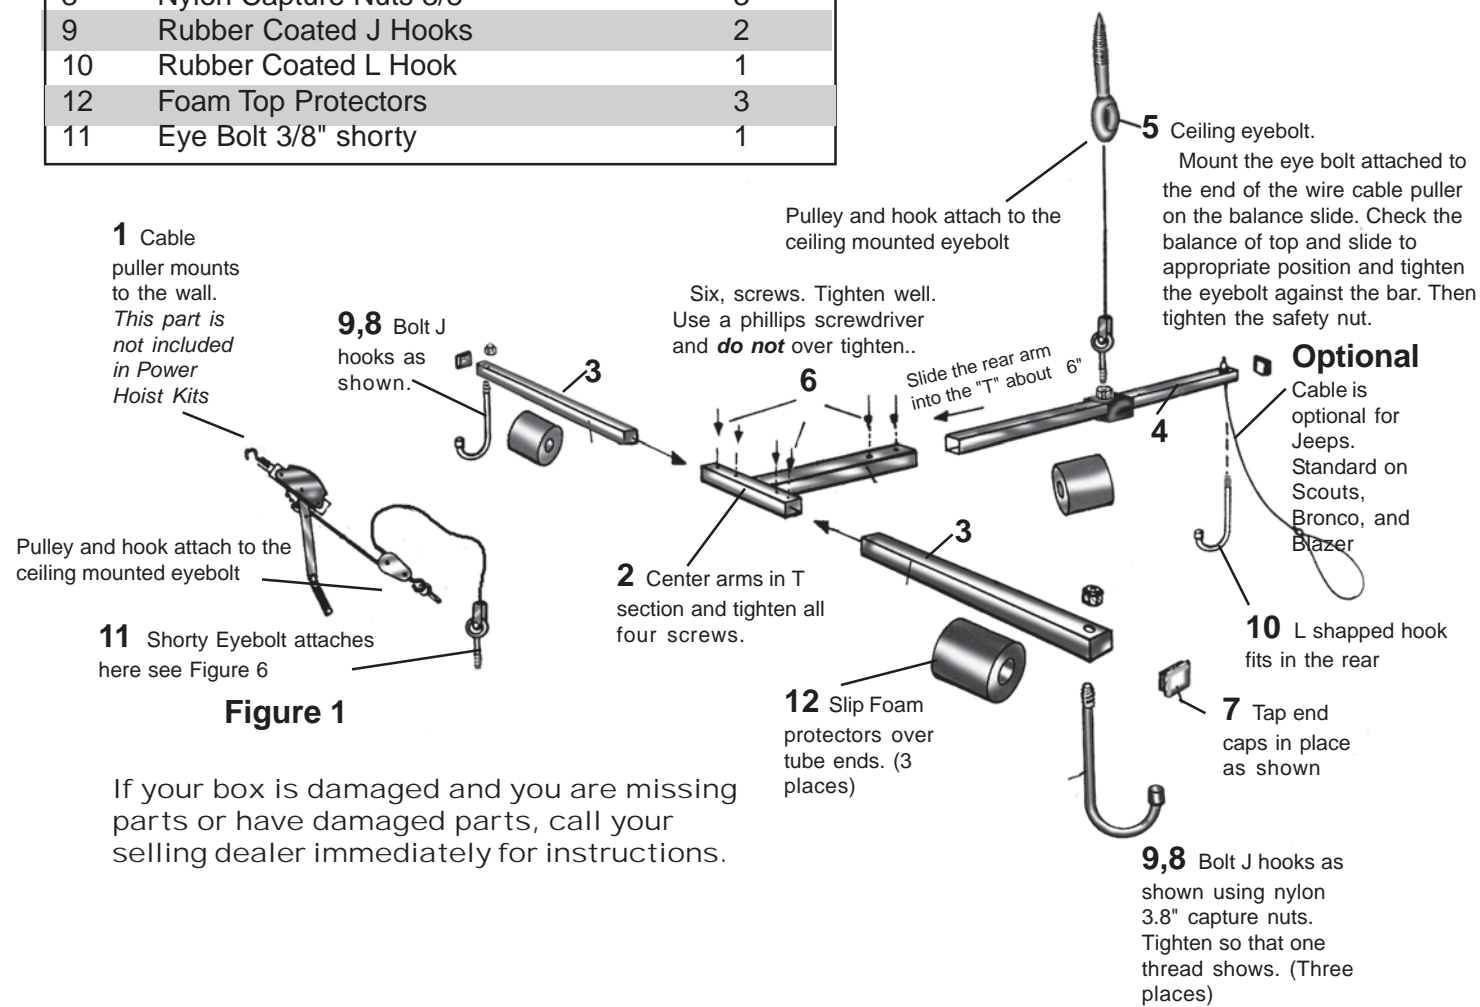
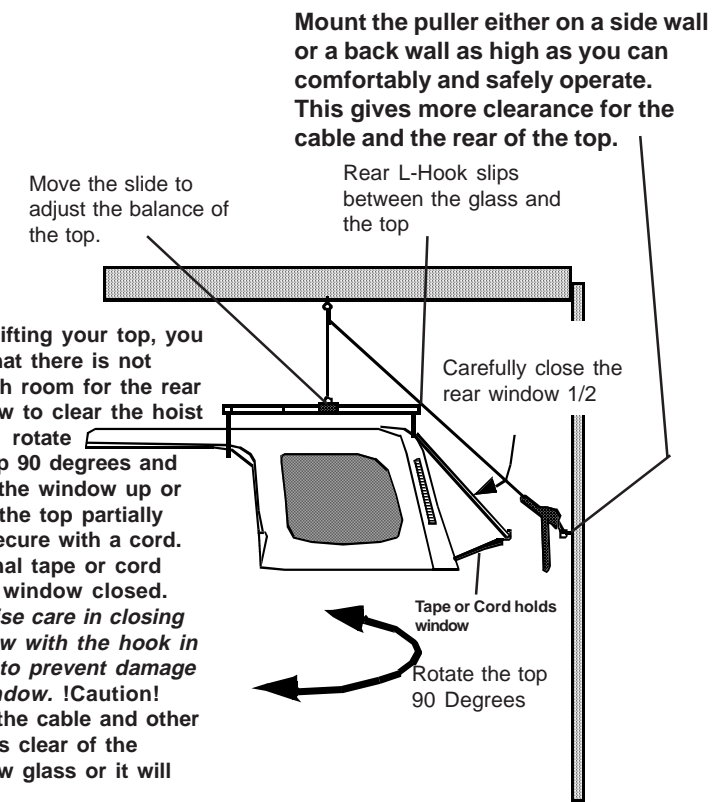

Figure 1
Figure 5, Mounting Connections
Please follow in order and read carefully before starting. Parts from the above diagram (Figure 1) are represented in the text in parenthesis: example Hoist Frame T Section (2).
2 Assemble the hoist frame as shown in Figure 1. Clip the Cable Puller (1) to the wall Eye Bolt (5) and then clip the pulley and hook to the ceiling Eye Bolt (5) as shown in Figure 5. Connect the shorty eyebolt as shown in Figure 6 to the cable puller and then attach to the slide. Place the Slide in the approximate position as shown in Figure 5 and hand-tighten the eyebolt to the arm. Slip the Foam Top Protectors (12) over the three arms of the hoist frame as shown in Figure 1. Hammer the End Caps (7) into the arms of the hoist frame. Attach the 3/8" Nylon Capture Nuts (8) to the hooks as
shown in Figure 1. **Tighten until one thread shows above the nut end.** Slip the frame arms into the hoist Frame T Section (2) as shown in Figure 1. **Insert and hand-tighten the #4 Screws (6) in the Frame Arms with a screw driver (3). Do not overtighten**
Helpful Hint: Fill an empty one-gallon milk carton about 3/4 full of water. Slip the handle of the carton through the rear hook on the empty hoist frame. This will balance your hoist so you can raise it to the ceiling leveled (without top). Lift the hoist to the ceiling and back your vehicle directly under the hoist. (It may pay to mark a line on your garage floor to aid in aligning your vehicle under the hoist). Open both doors. Remove all attaching hardware holding your top and the light plug/washer tube (if any). Position the frame as shown in Figure 5. If your Jeep is 91 or older and you have purchased the optional cable loop, or if you have a Scout/Bronco/Blazer, attach the cable over the rear door handle and **make sure the door is latched securely--very important.**
Position the J Hooks under the edge at the front of the top (see Figure 5). Make sure the hoist is set to *lift*. See instructions in the Cable Puller Box for lifting and lowering settings for the wire cable puller. Lift your top off slowly a few inches. Use one hand to balance the top until it clears the vehicle body. Make sure the top balances so that it remains fairly level when in the stored position (Hanging slightly lower at the back will aid in installation). To change the balance, move the balance slide (either to the front of the jeep to lower the rear or to the rear of the jeep to lower the front). Make sure you replace the top back on the vehicle before moving the slide. When the balance point is found, tighten the eyebolt until it presses hard into the rear support bar, then tighten the safety lock nut to additionally secure the eyebolt. Lift your top slowly a few inches and recheck everything.